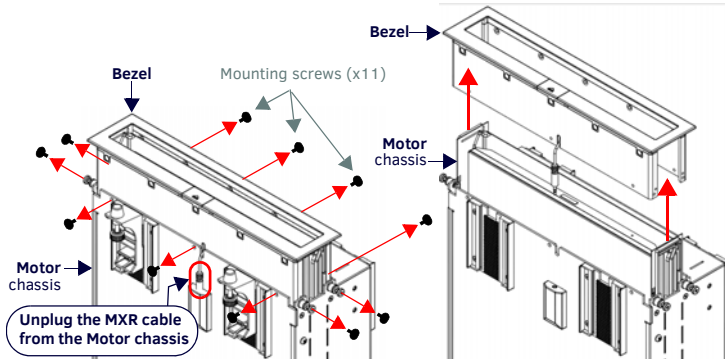

FIG. 5 ATTACHING THE BEZEL TO THE MOTOR CHASSIS
- Plug the MXR Cable from the Bezel into the connector on the front panel of the Motor chassis (beneath the mounting surface - see FIG. 5).